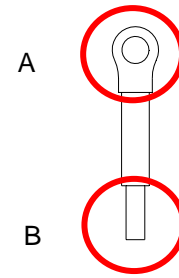

Fig. 8-7
- The option cards listed below must connect to ground when wiring. The ground terminal is enclosed with option card as shown in Fig. 8-7.